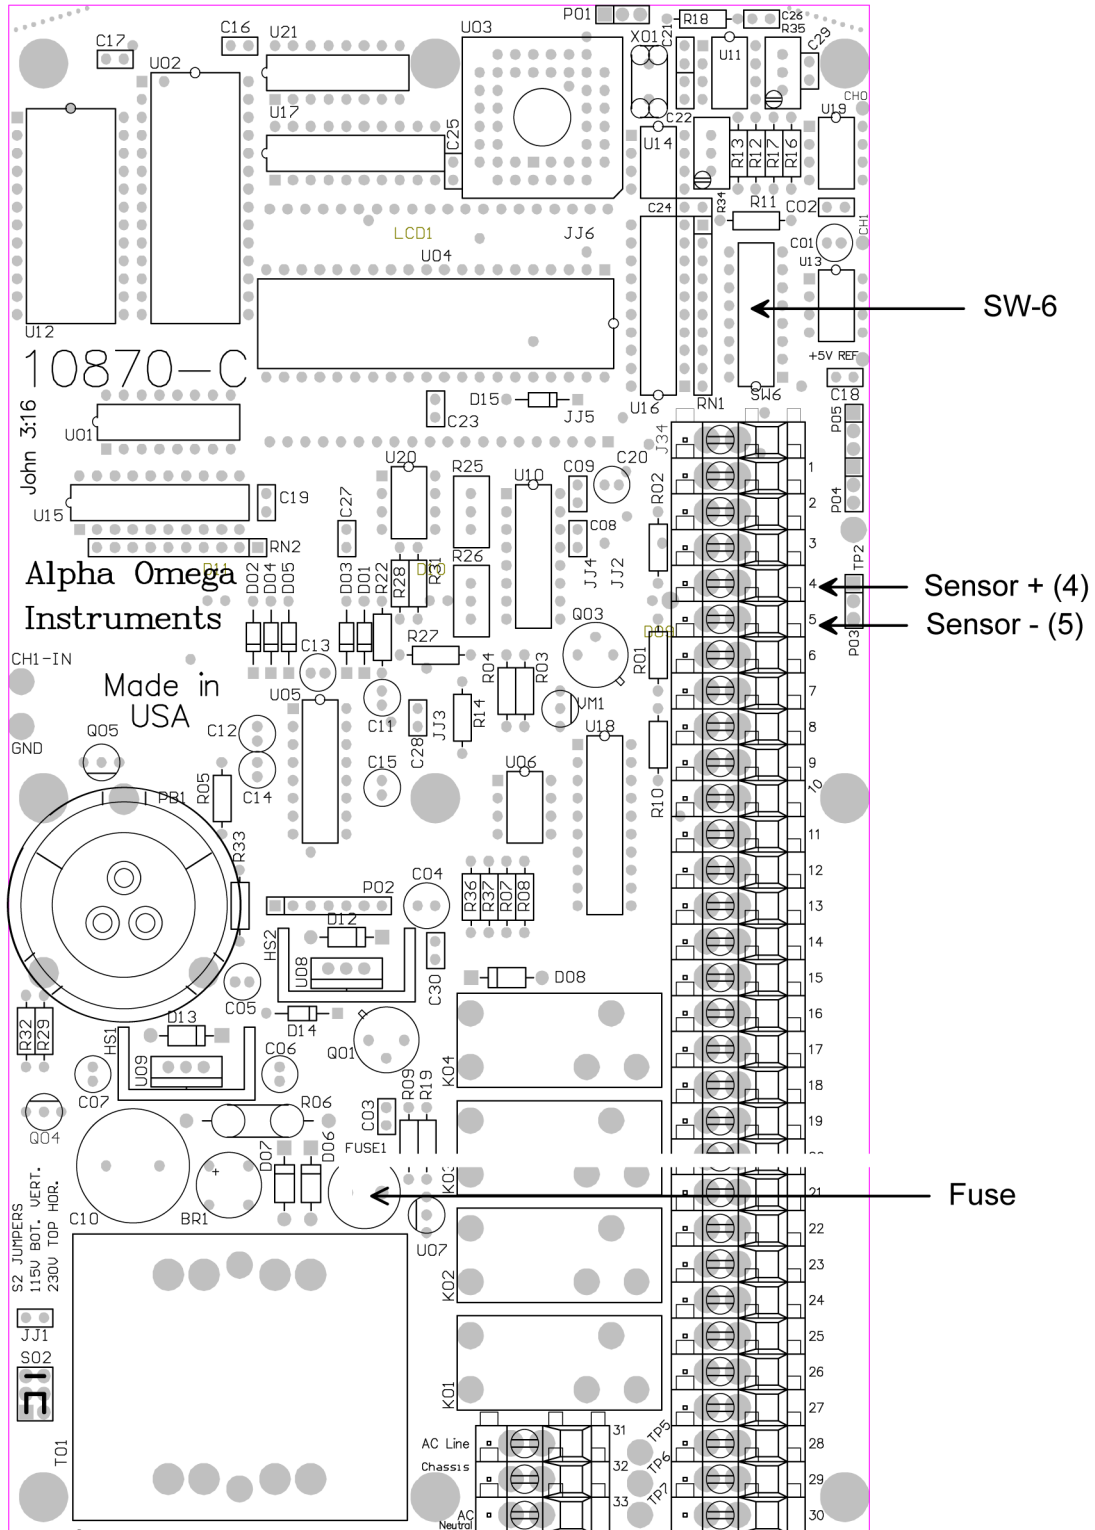
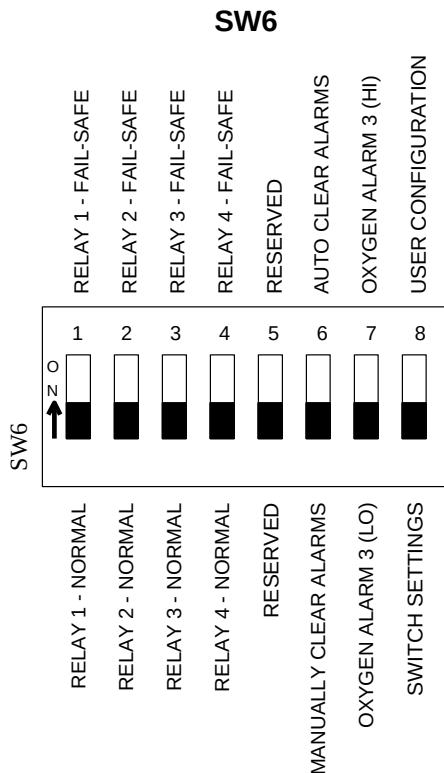

FIGURE 1.0
FIGURE 3.0
Referring to the printed circuit board diagram (FIGURE 1.0) on the next page, locate the AC power terminals 31, 32, and 33. Each connector is equipped with a screw terminal wire holder to facilitate insertion or removal of the wire from the connector. Strip away approximately 6.0 mm (1/4 inch) of insulation from each of the three conductors and then connect AC line, AC neutral, and chassis ground to each connector. Tighten down on each screw turning clockwise to securely fasten each conductor. If the primary power to the instrument is direct current (DC), wire to terminals 29 (BAT+) and 30 (BAT-). Please refer to the cautionary note on page 17 regarding optional battery operation.
The Series 2000 Percent Oxygen Analyzer has two standard linear outputs, 4-20 mADC and 0-2 VDC over the instrument's range(s). These outputs can be measured simultaneously. To wire to the 4-20 mADC output, wire to terminals 12 (4-20) and 13 (AGND). To wire to the 0-2 VDC output, use terminals 8 (positive {labeled DAC}) and 9 (negative {labeled AGND}). The terminals can be found on the right side of the printed circuit board (refer to FIGURE 1.0). **Note: If a jumper wire is in place between terminals 12 and 13, it must be removed prior to using the 4-20 mADC output.**
Setting the alarms for fail-safe operation and automatic alarm clearing can be accomplished by using an on board switch bank (SW6) located in the upper right quadrant of the printed circuit board (refer to FIGURE 1.0). This switch bank has eight (8) individual switches for configuring the Series 2000 Percent Oxygen Analyzer. Refer to FIGURE 3.0 on the next page for a description of the switches.
The Series 2000 Percent Oxygen Analyzer will "boot" up based on the settings of oxygen alarm switches #1 through #4. Switches #1 through #4 control the fail-safe operation for each of the four alarm relays. Each switch must be turned "ON" to be fail-safe (refer to FIGURE 3.0). In the fail-safe mode, upon an alarm condition, the corresponding relay will change state (from energized to de-energized) upon loss of AC power. The factory settings for switches #1 through #4 is "OFF" (normal operation or non fail-safe).